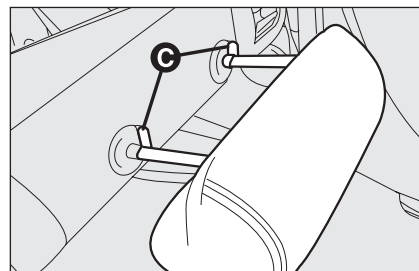

fig. 30
- ☐ press buttons **C**-fig. 30 (set aside the two head restraint supports) then remove the head restraints by pulling them upwards.